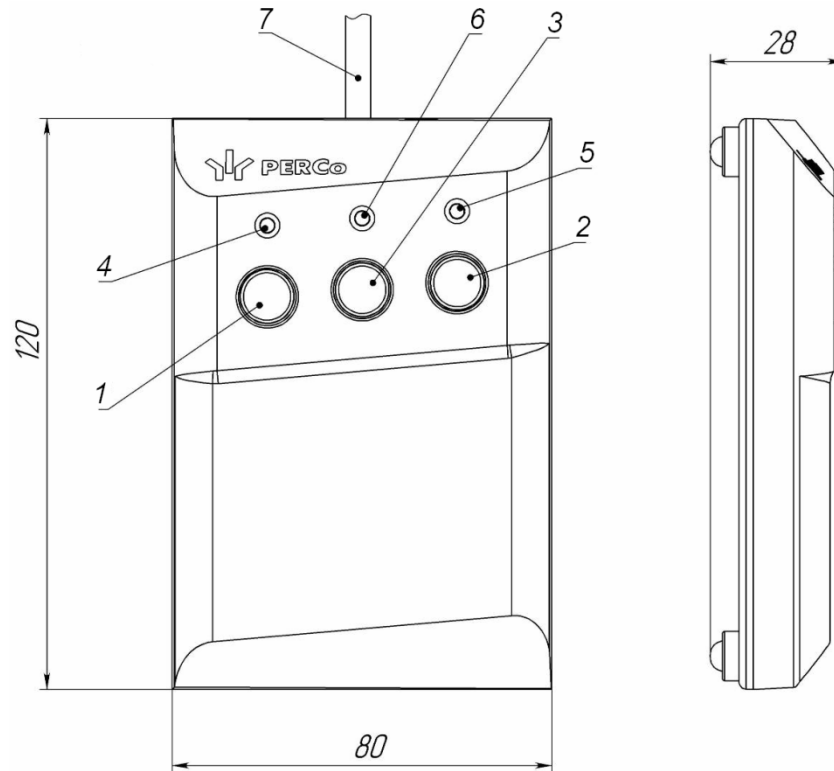

Figure 7. Overall view and dimensions of the RC panel
RC panel (17) is a small table device made of shockproof ABS plastic. RC panel is designed for speed gate operation in the manual mode, in which the operator sends commands to the equipment. The overall view of the RC panel is shown on Fig. 7.